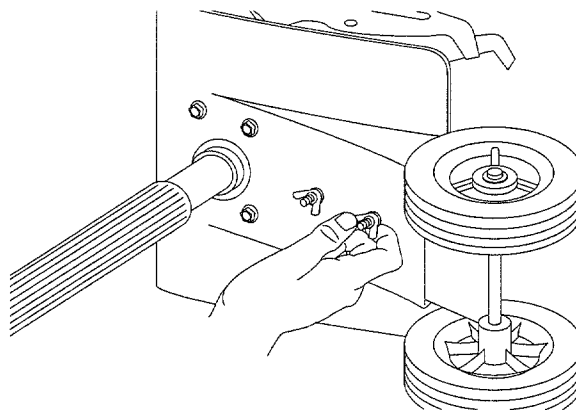

Figure 3
4. Make sure the square shoulder of the bolts are through the slotted holes in the wheel bracket. Tighten the wing nuts. See Figure 3.